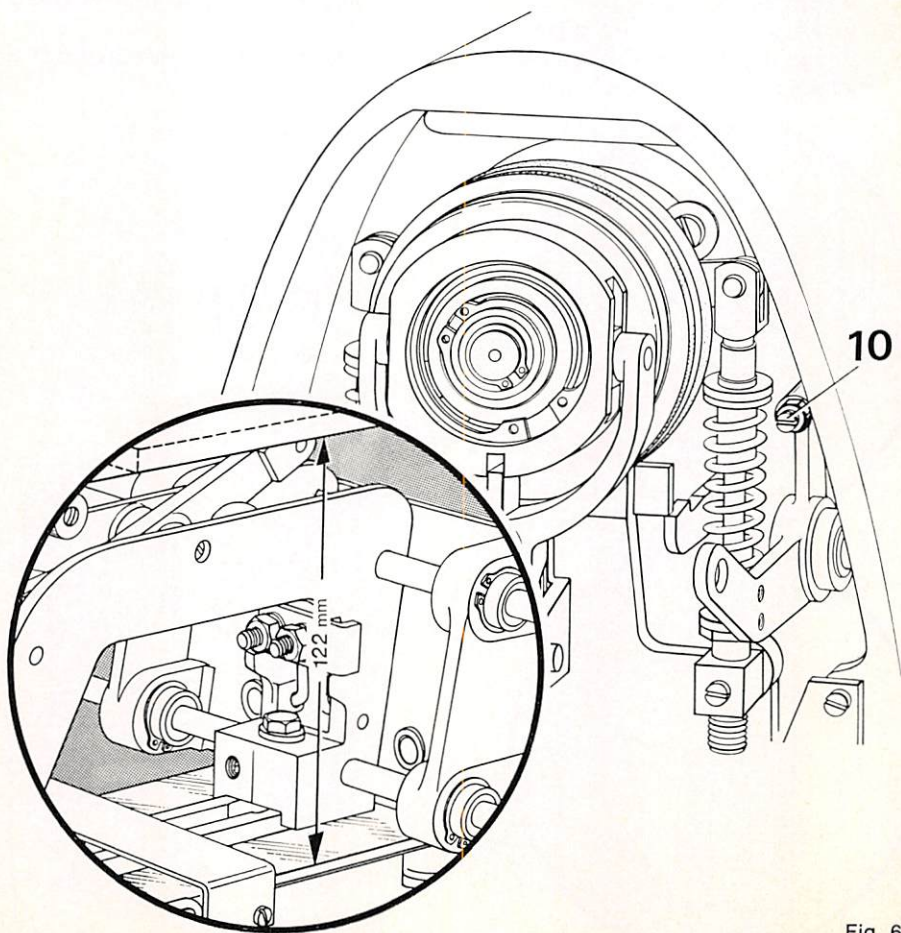

Fig. 6
**6. Adjusting the clamp lifting lever (Fig. 6)**
- 6.3. Turn the screw in again until there is a clearance of 122 mm (4.8") between the thrust plate in the machine arm and the cylinder bed top cover (see encircled view in Fig. 6).